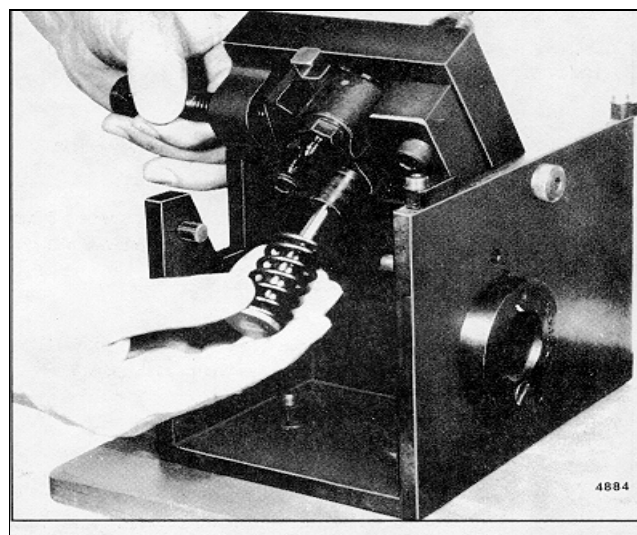

Fig. 24 - Removing or installing Plunger Follower, Plunger and Spring
3. Refer to Fig. 24 and remove the plunger follower, plunger and spring as an assembly.